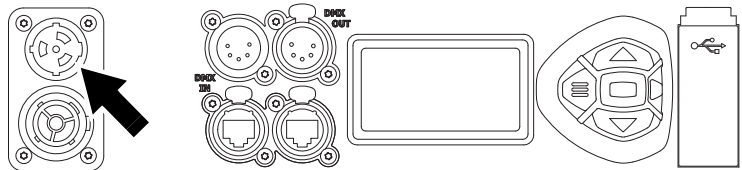
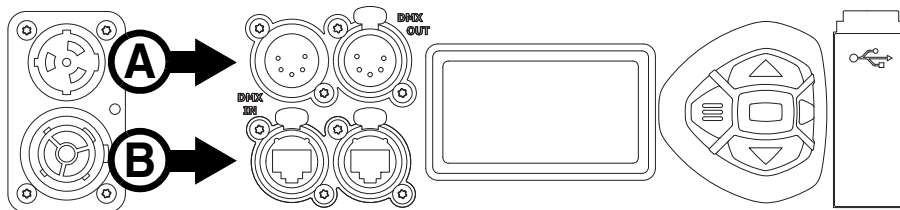

Figure 7: Mains input socket
Figure 8: Data connections
2. See Figure 7. line up the keys in the power input cable's TRUE1 connector with the keyways in the MAINS IN socket (arrowed). Insert the connector into the socket and twist clockwise to engage. If the connector seems difficult to twist, remove it from the socket, check that you have lined up the keyways correctly and try again – do not use excessive force. Make sure that the connector latch clicks and that the connector is locked into the socket.
The MAC Allure Profile has 5-pin locking XLR sockets for DMX and RDM input and output (see **A** in Figure 8). The default pin-out on both sockets is:
The MAC Allure Profile has Neutrik etherCON data sockets (see **B** in Figure 8) that support DMX and RDM over Art-Net and sACN as well as Martin P3 video (see Figure 7 on page 11). Either socket can be used for input and the other socket used for throughput.